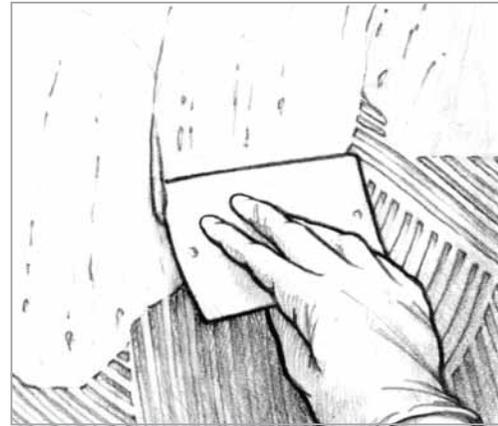

Figure 8 Trowel a second layer of fairing compound over the surface to fill the grooves after the ridges have been sanded fair.
7. Trowel a second layer of fairing compound over the surface to fill the grooves (*Figure 8*). Use a smooth-edged spreader held firmly against the surface to drag away excess compound, leaving a smooth surface flush with the faired ridges. Mix the fairing compound for the second layer to the same density as the first layer. Allow the fairing compound to cure thoroughly.